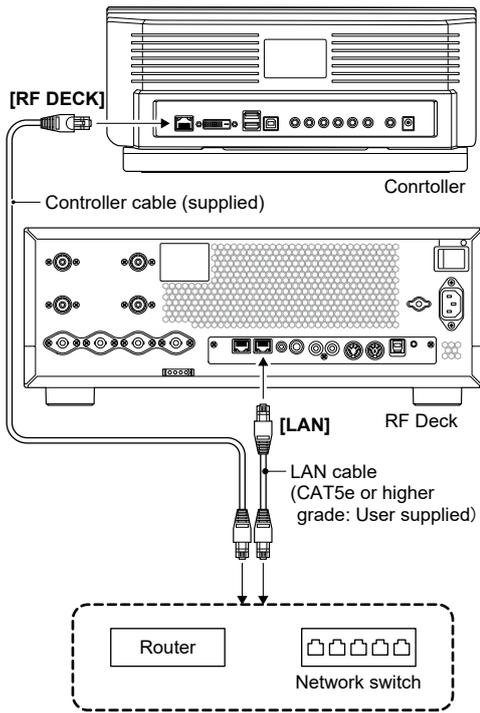

Figure 09-10. Connection in a Home Network
- 6). Connect the [RF DECK] port of the Controller to your home network switch or router (LAN side) with the supplied controller cable. (Figure 09-10)